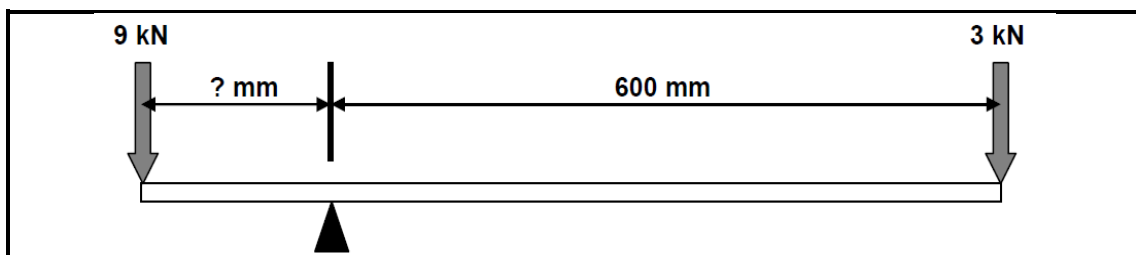

FIGURE 4.11
4.11 The beam in FIGURE 4.11 below is in equilibrium. Calculate the distance between the support point and the 9 kN load.